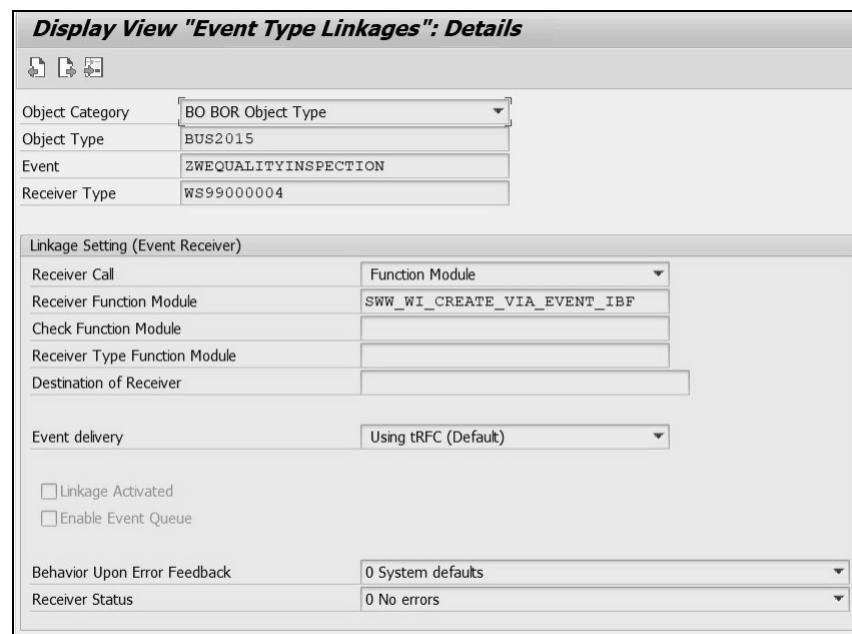

Figure 5.30 Event Linkage before Assigning a Start Condition
1. Ensure that an event linkage exists in Transaction SWE2 or Transaction SWETYPV for the concerned event and workflow/task because that is a prerequisite to creating a start condition. Figure 5.30 shows an event linkage entry from Transaction SWE2 without a start condition. Note that the **Check Function Module** field is empty in this case.